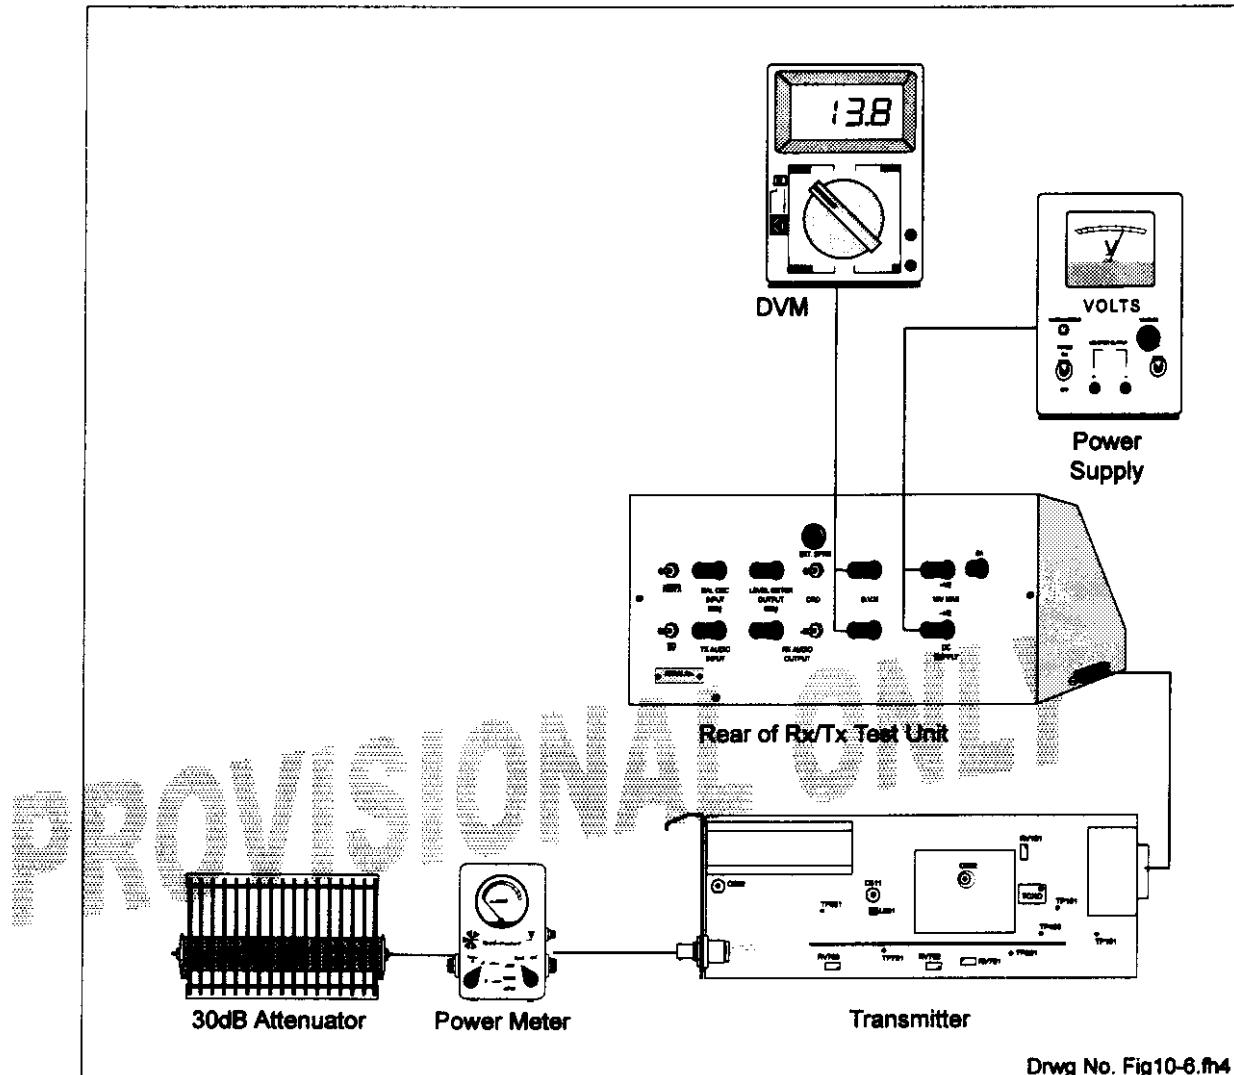

Figure 10.6: Alignment and Functional Checks Set-up
3. Connect the power supply and the digital voltmeter to the Type 2501 Test Set, then use a short ribbon cable to connect the Type 2501 to the rear plug on the transmitter PCB. Finally, use a short length of co-axial cable to connect the RF output plug on the transmitter PCB to the RF power meter, terminated with a 30 dB attenuator. Refer to Figure 10.6 for connection details.
1. Connect the transmitter PCB to the test equipment as shown in Figure 10.6. Connect the frequency counter to the output of the attenuator. Allow the equipment to be fully warmed up, then turn the modulation down to 0 mVrms.
1. Connect the transmitter PCB to the test equipment as shown in Figure 10.6.